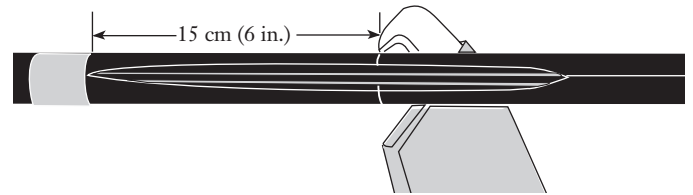

Figure 21
6.8 At a point approximately 15 cm (6 in.) from the tape wrap, use the hook blade knife to score a ring cut around the black outer sheath. Do not cut completely through the sheath (Figure 21).